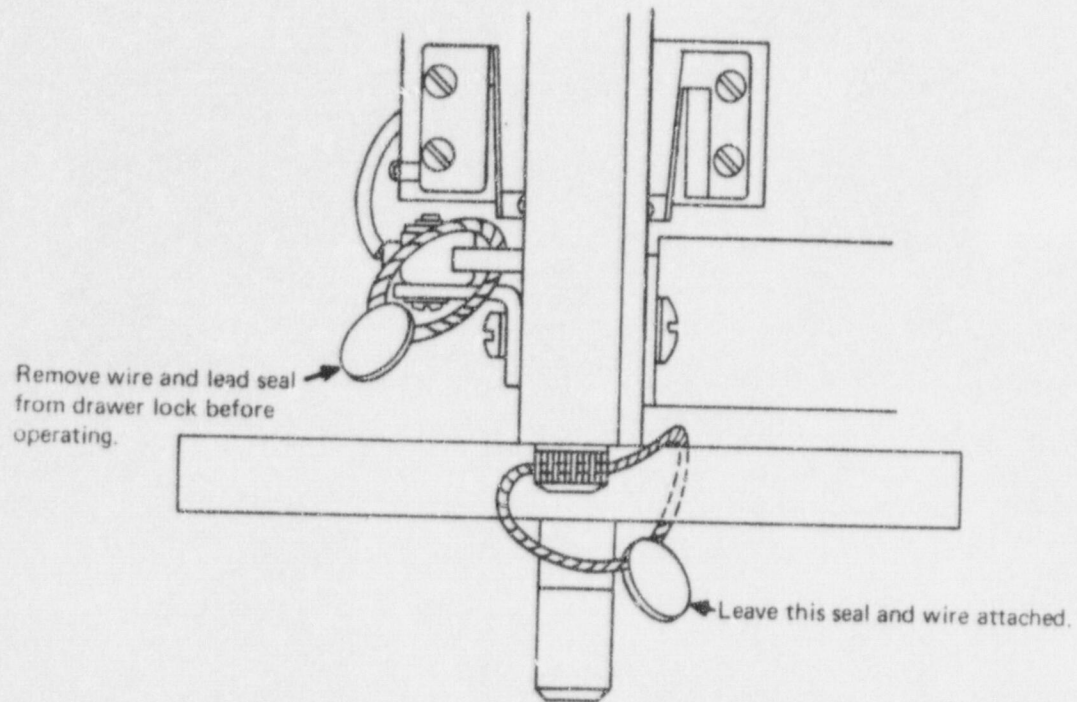

Figure 3-2. Source Drawer Interlock Seal
3. Remove wire and lead seal from drawer lock (see Figure 3-2).